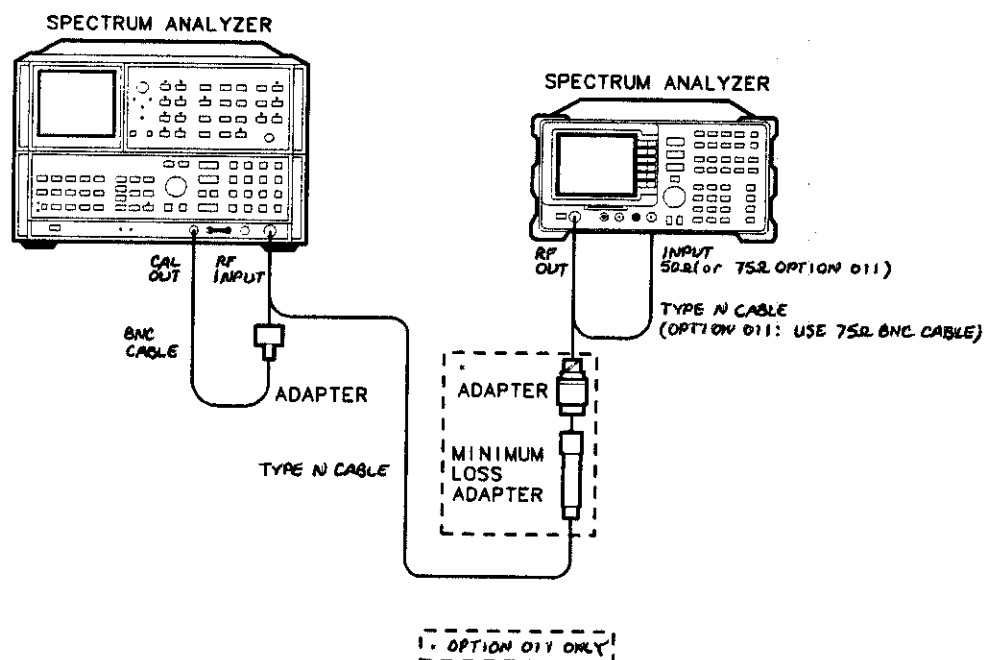

Figure 1-26. Harmonic Spurious Outputs Test Setup
1. Connect the Type N cable between the RF OUT 50 Ω and INPUT 50 Ω connectors on the spectrum analyzer. See Figure 1-26.
7. Connect the Type N cable from the tracking generator output to the microwave spectrum analyzer RF INPUT. See Figure 1-26.